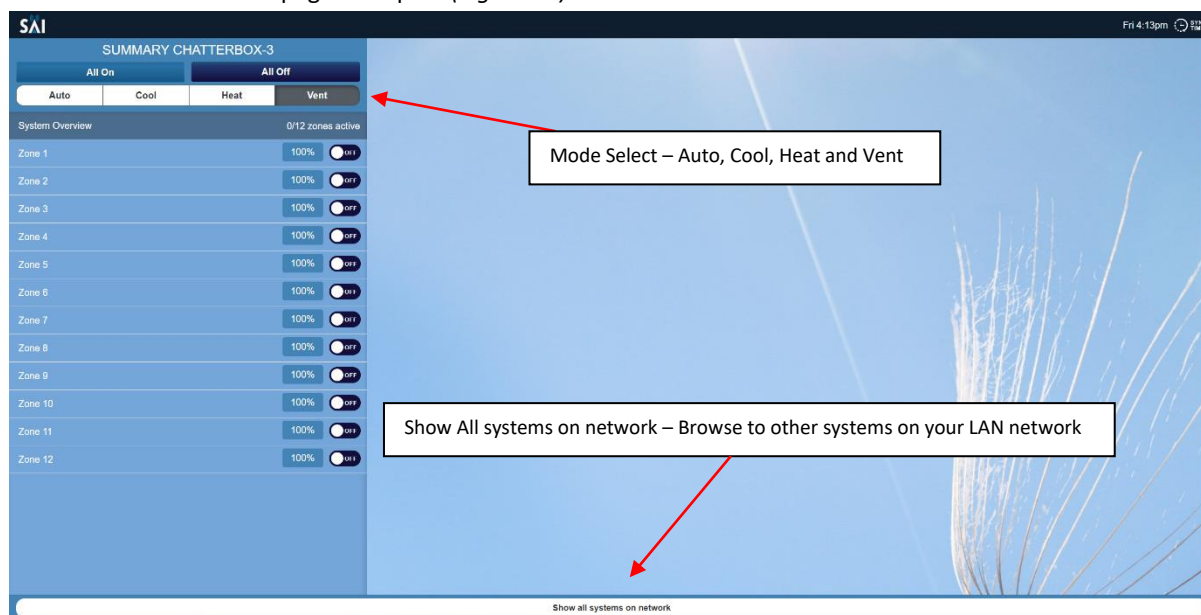

Figure 11 – Launch Page
6. To access the User interface for any of the systems press the Launch button on the right-hand side. This will launch the interface and you can start to control your device. (Figure 11)
2. The Launch page will open. (Figure 11)
Press the Auto, Heat, Cool or Vent Buttons. (Figure 11)
You can use the “Show all systems on network” button to display all SAI HVAC systems installed. You can select which system you wish to control from here. (Figure 11)